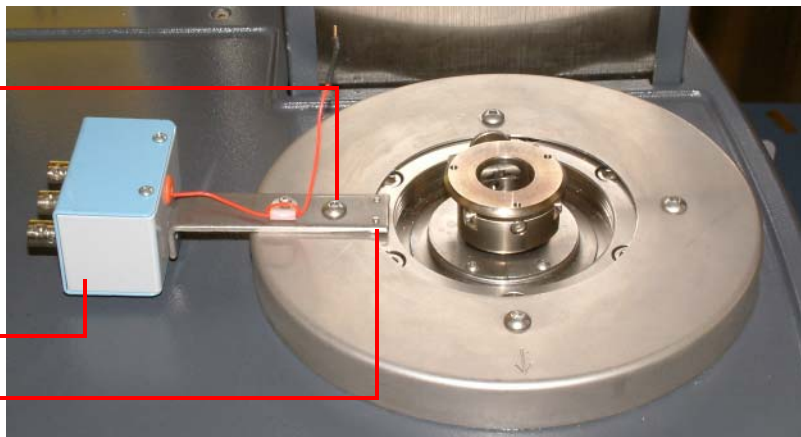

Figure 6 Lower BNC junction box installed on motor cover.
- b Install the lower BNC junction box over the hole, making sure to align the hole on the bracket with the hole on the motor cover. Ensure that the alignment pins at the end of the bracket (shown in Figure 6) are facing downwards.